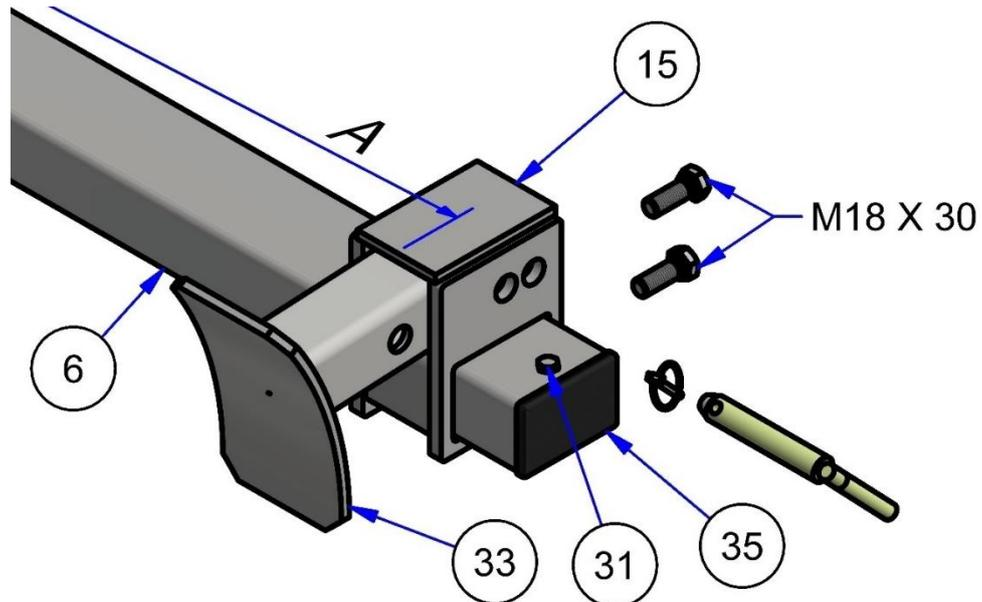

*Figure 23 (Underrun Bar Assembly)*
2. Bolt Items 1 and 2 onto the underrun bar centre (Item 3) using the four M16 nuts and bolts as shown in Figure 23